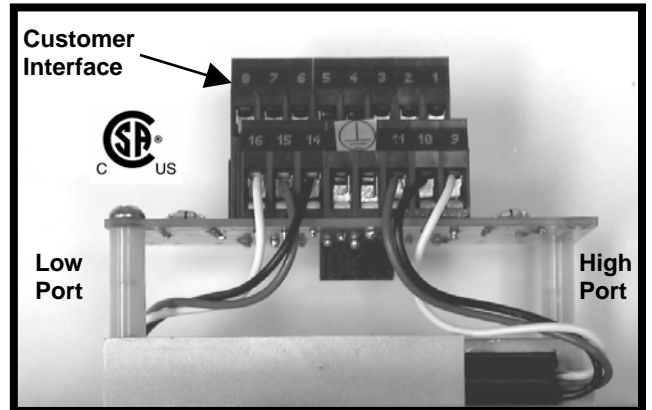

Figure 4: Reed Switch Terminal Strip Output Interface
- C. Check the reed switch interfaces to the terminal board for loose connections. For the power relay the reed switch(es) connect to the terminal strip on the underside of the PCB. For the reed switch outputs the reed switch(es) connect to positions on the bottom row of the terminal strip on the top of the PCB (see Figure 4).